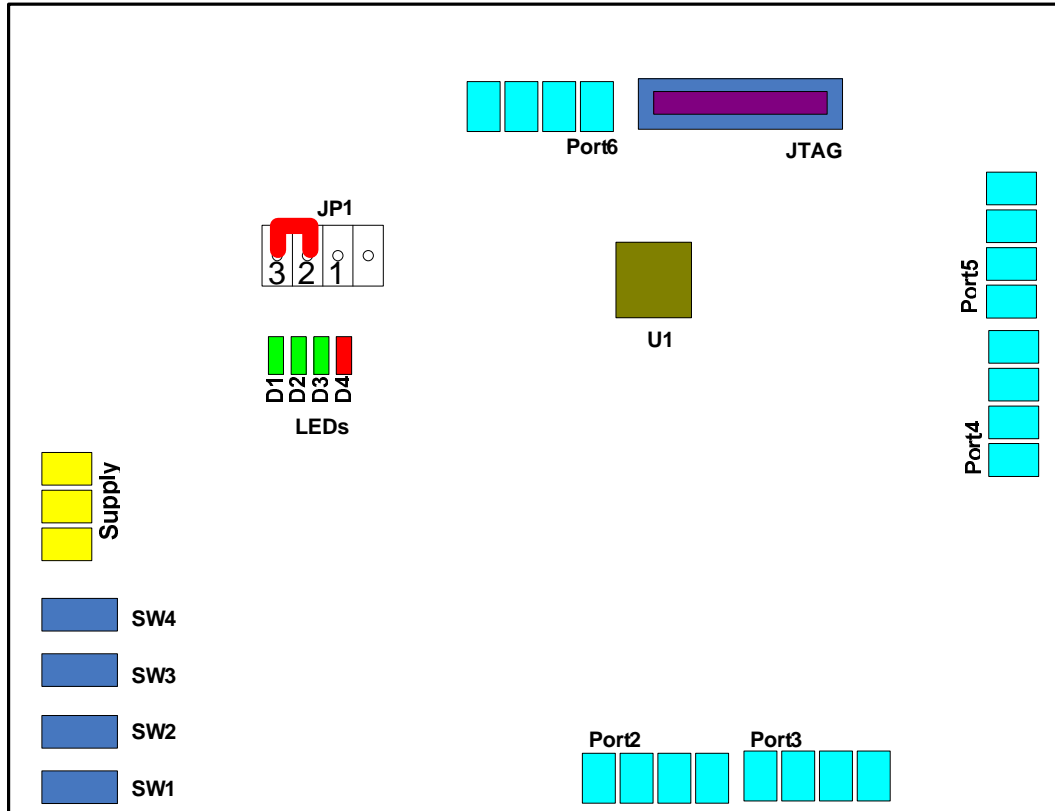

Figure 2. General Component lay-out in a TI device
2. Arrange them as in Figure 2 so that observing the LED D1 and LED D4 on all the four devices is easy.
The general layout of components, indicating the locations of key (SW1) and LEDs D1, D2 and D3 are as in Figure 2. In this sample application, you will be required to Press SW1 and view D1 and D4 to confirm that the data transmission occurs as programmed.
2. Press key SW1 (as shown in the general layout- Figure 2) at the PAN Coordinator.
2. Disconnect power supply to Router 1 by removing either the battery or the jumper between terminals 2 and 3 (JP1) as shown in Figure 2.